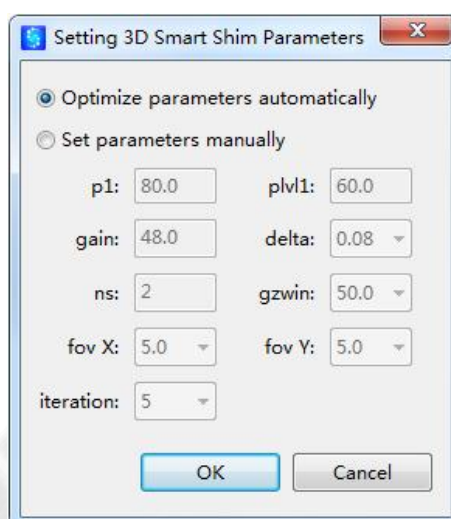

Figure 2.37 Setting dialog when Make Map is selected
(1) If **Make Map** is selected, a new field map will be made first. The default way is to make field map using automatically optimized parameters. User can click **Setting** button to open a dialog box, then select Set parameters manually to set up proper values for each parameter, as shown in Figure 2.37.